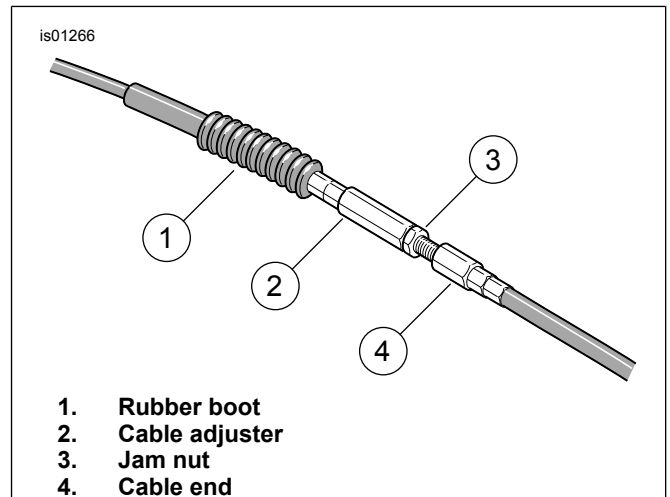

Figure 3. Loosen Clutch Adjuster
2. See Figure 3. Loosen the clutch adjuster so the clutch cable is fully slack by performing the following steps:
- a. Slide the rubber boot (1) off the cable adjuster (2).
- b. Holding the cable adjuster with a 1/2 in wrench, loosen the jamnut (3) using a 9/16 in wrench.
- a. See Figure 3. Turn the cable adjuster (2) away from the jamnut (3) until slack is eliminated at the hand lever
- c. See Figure 3. Hold the cable adjuster (2) with a 1/2 inch wrench. Using a 9/16 inch wrench, tighten the jamnut (3) against the adjuster.
- d. Cover the cable adjuster with the rubber boot (1).